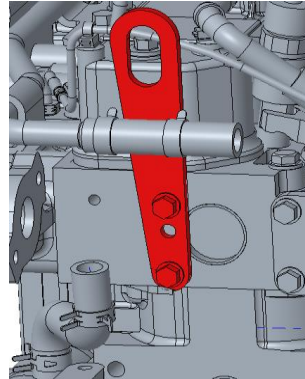

Figure 2
1. If it is possible to get to the rear engine lift eye and mount rear DOC mount bracket (4) as shown in Figure 2 & 3, then go to step 4. If it is not possible, then follow from step 2.
3. Remove the rear engine lift eye as shown in the Figure 2 on the next page. This will not be reused.